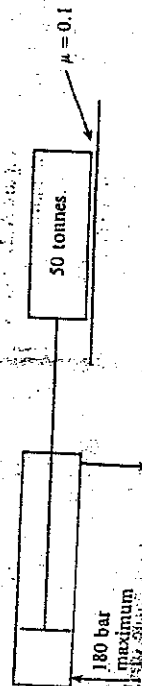

Figure A.22
A.2.13 A hydraulic cylinder as shown in Figure A.22 is to accelerate a load of 50 tonnes horizontally from rest to a velocity of 10 m/min in 50 mm. Take the coefficient of friction (μ) between the load and the guides as 0.1; assume zero back-pressure. Determine: